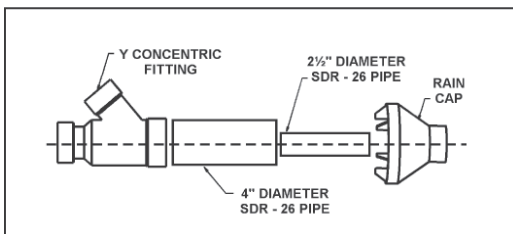

Figure 25
- Cement Y concentric fitting to larger diameter kit pipe, see Figure 25.
NOTE: If assembly needs to be extended to allow side wall thickness requirement, the 2 pipes supplied in the kit may be replaced by using same diameter, field-supplied SDR-26 PVC (D2241) pipe. Do not extend 21 1/8" (53.6 cm) dimension more than 60" (1.5 m). See Figure 25.